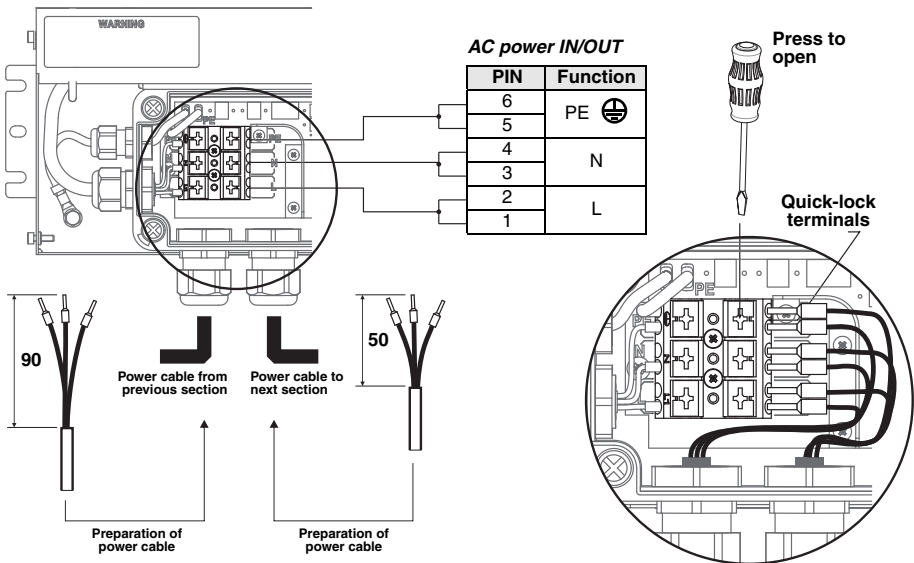

Figure 10: AC mains power connections in PSU
3. The Exterior 50 & 100 PSU has quick-lock terminals for connecting power cables. Each terminal accepts one input and one throughput wire. Push down with a flat-blade screwdriver on a terminal as shown in Figure 10 each time you need to insert or release wires. Check that wires are fully inserted and held securely when you lift the screwdriver away.
5. See Figure 10. Prepare the power input cable for connection to the PSU by stripping the last 90 mm (3.5 ins.) of the outer cable jacket. Strip the last 10 mm (0.4 ins.) of the insulation from the ground/earth, the neutral and the live wires, and install 10 mm (0.4 ins.) ferrules (I-type end caps) on the ends of the wires.
7. See Figure 10. Connect the wires from the power input cable to the quick-lock terminals in the PSU as follows:
2. See Figure 10. Prepare the power throughput cable for connection to the first PSU by stripping the last 50 mm (2 ins.) of the outer cable jacket, then stripping the last 10 mm (0.4 ins.) of the insulation from the ground/earth, the neutral and the live wires. The use of ferrules (I-type end caps) is recommended.
4. See Figure 10. Connect the wires from the power input cable to the quick-lock terminals in the PSU as follows: